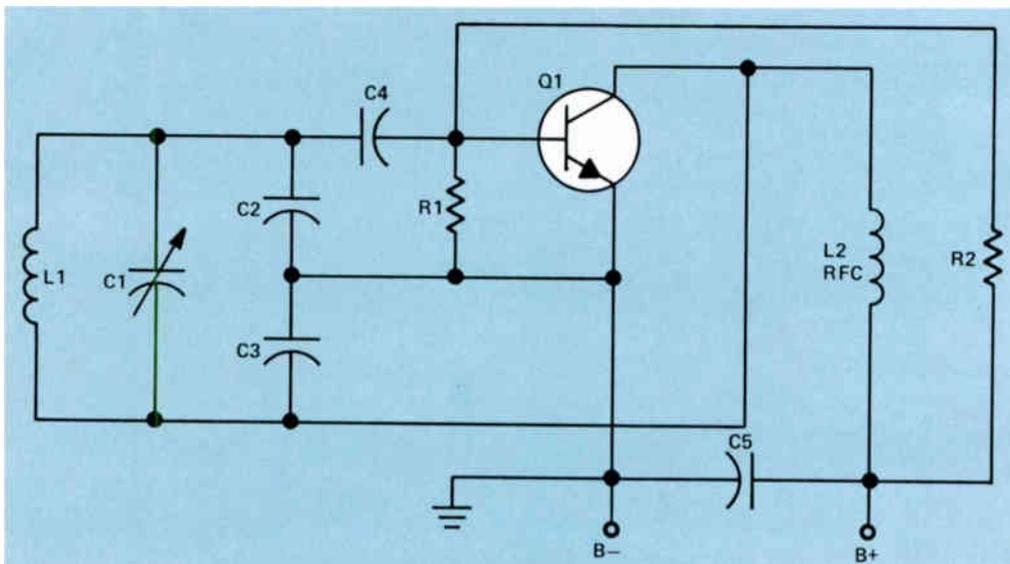
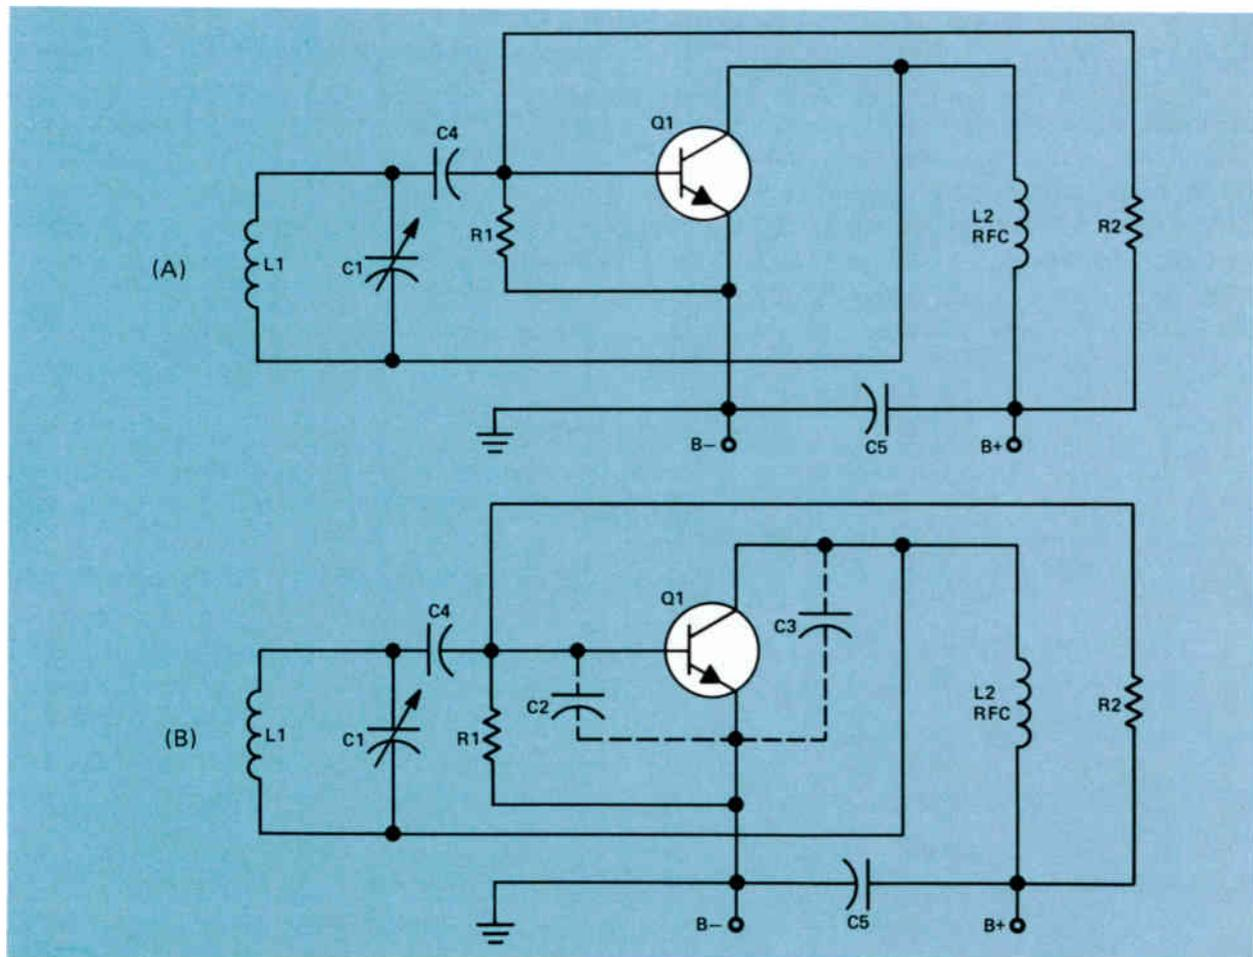

Figure 8. A variation of the Colpitts oscillator.
Figure 9. (A) The ultra-audion circuit. (B) The same circuit with internal transistor capacities added.
One variation of the Colpitts oscillator is shown in Fig.8. Here we have capacitor C1 connected across L1, in addition to the voltage divider capacitors C2 and C3. Notice that in the circuit, the collector of the transistor is fed back directly to L1, C1, and C3. The choke coil has been removed from the emitter circuit and the emitter is connected directly to ground.
**The Ultra-Audion Oscillator.** A modified form of the Colpitts oscillator that is frequently used in the vhf region is shown in Fig.9. This circuit is called the ultra-audion oscillator. When the circuit was first developed, it was thought to be a new type of oscillator. However, careful analysis shows that it is really a Colpitts oscillator similar to the one shown in Fig.8.
Figure 9(A) is the schematic diagram of an ultra-audion oscillator and Fig.9(B) shows the ultra-audion oscillator with the transistor capacitances, drawn in dashed lines, that exist between the collector and emitter, and between
the base and emitter. We have used the same designations to identify the parts in the circuit shown in Fig.8 and Fig.9(A) so that you can see the similarity between the two circuits. The capacitors represented by the dashed line connections in Fig.9(B) are the internal capacities of the transistor which are not added into the circuit as external parts. However, in the vhf region, these capacitances are large enough to take the place of the actual capacitors used in the low-frequency oscillator shown in Fig.8. You should learn to recognize this circuit as a form of the Colpitts oscillator because it is widely used at high frequencies. Of course, manufacturers do not draw the internal transistor capacitors on schematic diagrams, so the circuit looks like Fig.9(A) rather than Fig.9(B).